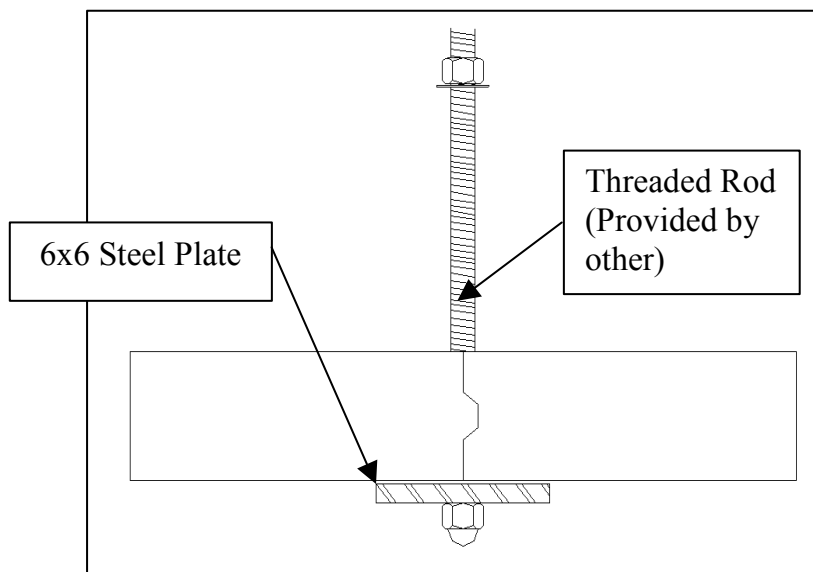

Fig.4
3. When a ceiling spans longer than 14'-0" the suspension kit (Fig.4) is installed between panels. These locations will be outlined on your drawing.